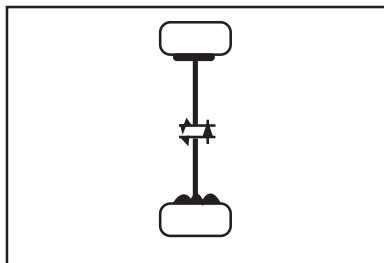

Figure 79.
- When multiple pieces are available they can be hot dip galvanized back to back by using bolts with pipe spacers to separate the pieces. The assembly would be separated after cooling completely and the spacer contact area repaired with a suitable galvanizing repair material (figure 79).